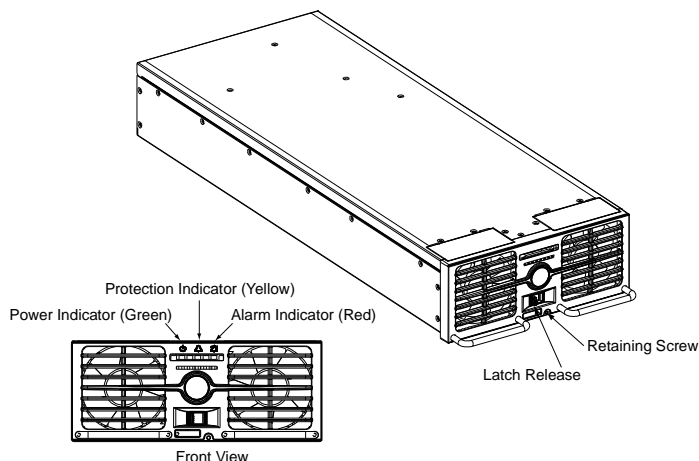

Figure 4-1
- 3) Place the "Latch Release" located on the front of the rectifier module to the LEFT position. See Figure 4-1.